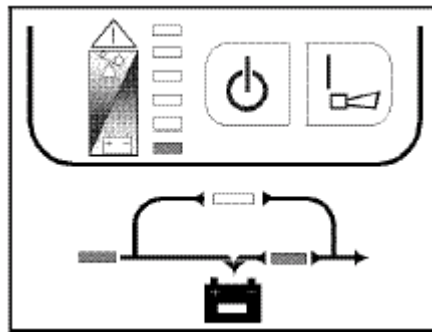

Fig 1.2-1 Inverter Mode
2. Then press the “|” button. After 10 seconds, the control panel will become what is shown in Fig. 1.2-1.